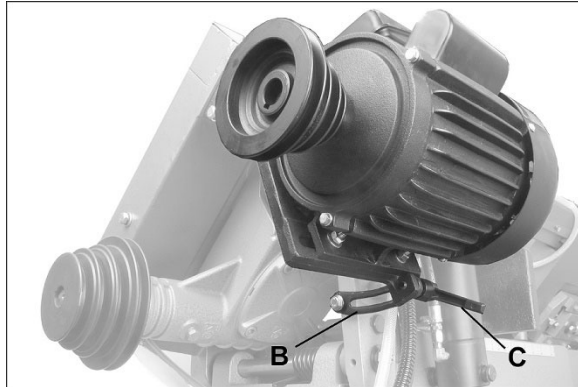

Figure 5-3: motor locking handle
- Attach motor tilt plate (B, Figure 5-3) to motor bracket using the provided locking handle (C, Figure 5-3) with lock washer and flat washer.
- Loosen tilt locking handle (C, Figure 5-3), and allow motor to lower. Place v-belt around both pulleys.